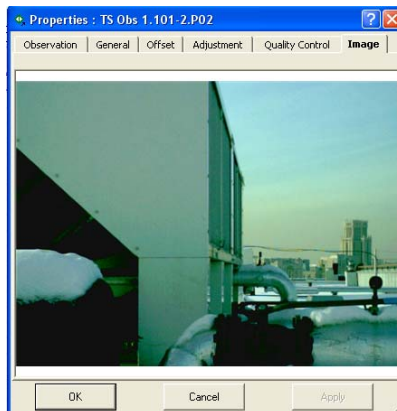

Figure 5-107. Image Properties.
7. The *Image* tab displays the image(s) for the selected TS observation (Figure 5-107)